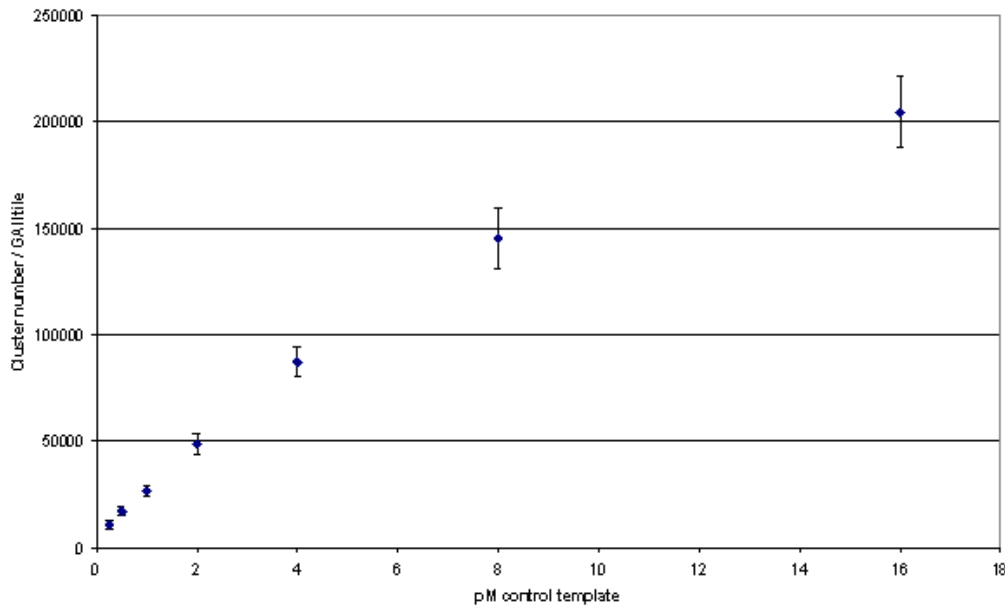

Figure 5 Example of Library Titration
Cluster counts from a first cycle report are not accurate, particularly at high cluster density, due to the different way in which the clusters are counted. A cluster titration for the control template should be linear up until the point at which the clusters become too dense to count accurately, based on current version of the Illumina Genome Analyzer (GA) being used. An example of a library titration is shown in Figure 5.
In Figure 5, an *E. coli* control library with a template size of 300 bp was clustered on four flowcells at 16 pM, 8 pM, 4 pM, 2 pM, 1 pM, 0.5 pM, and 0.25 pM and clusters were counted through the Pipeline following five cycles of sequencing.